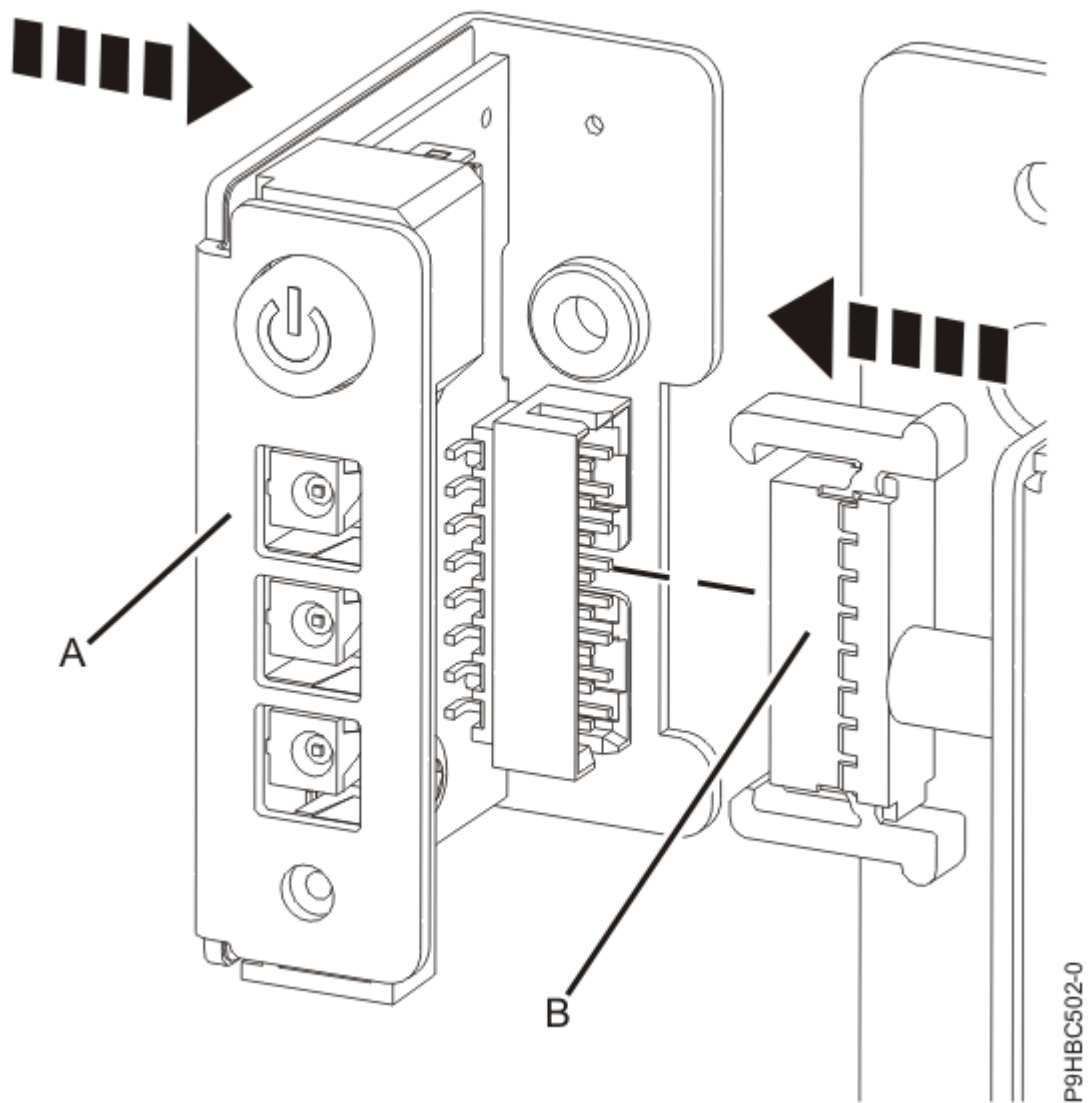

Figure 11. Connecting the control panel and cable
2. Connect the control panel (A) to the control panel cable (B) as shown in Figure 11 on page 13.